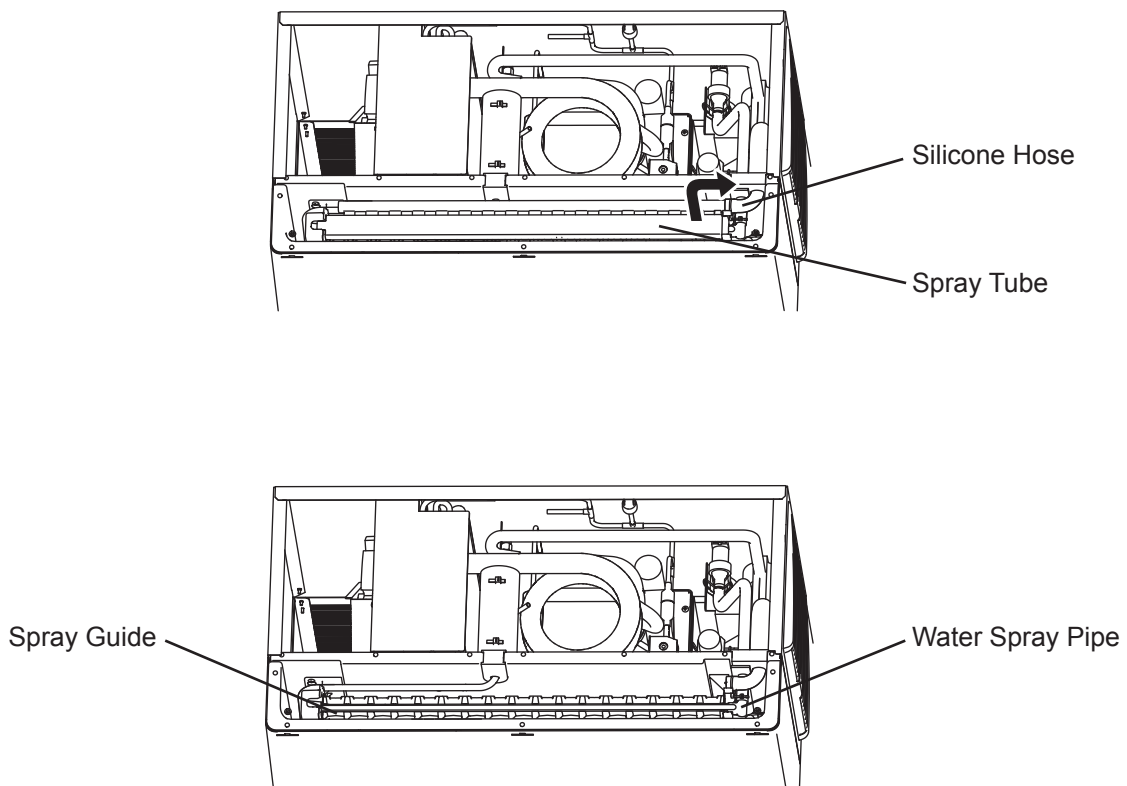

Fig. 19
- 4) Remove the Silicone Hose and Spray Tube. See Fig. 19.
- 5) Remove the Water Spray Pipe and Spray Guide from the Evaporator Plate. See Fig. 19.